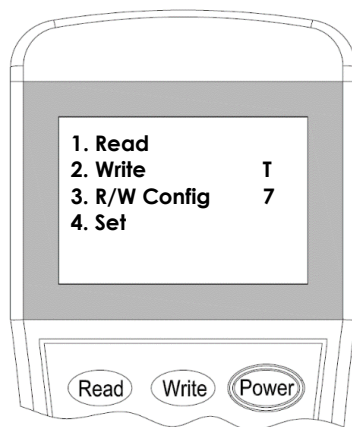

Figure 10
1. Switch on the programmer, then press button “3” then display “**Sensitivity and Span (m)**” (Figure 10).